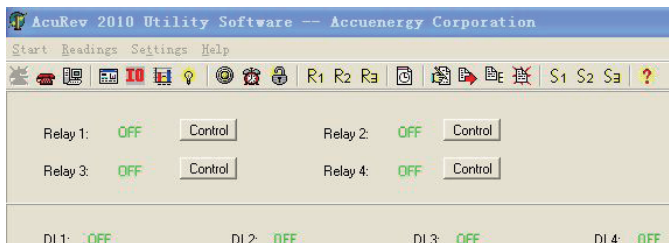

Figure 4-4 DI/RO
As Figure 4-4 shows, AcuRev 2000 has 4 Relay Outputs (RO), 8 Digital Inputs (DO). Please refer to Figure 4-5 for DI/RO related settings.
If the Relay Output type is set as Relay Control, click "Control" in Figure 4-4 to send command "close" or "open" to the relay. When the relay is set as alarming output, Relay Control function will be disabled.